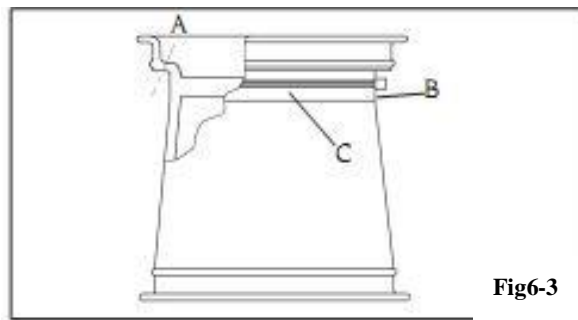

Fig6-3
- Some wheels have the tire pressure inspect system as figure6-3. Do not damage the tire pressure inspect system.